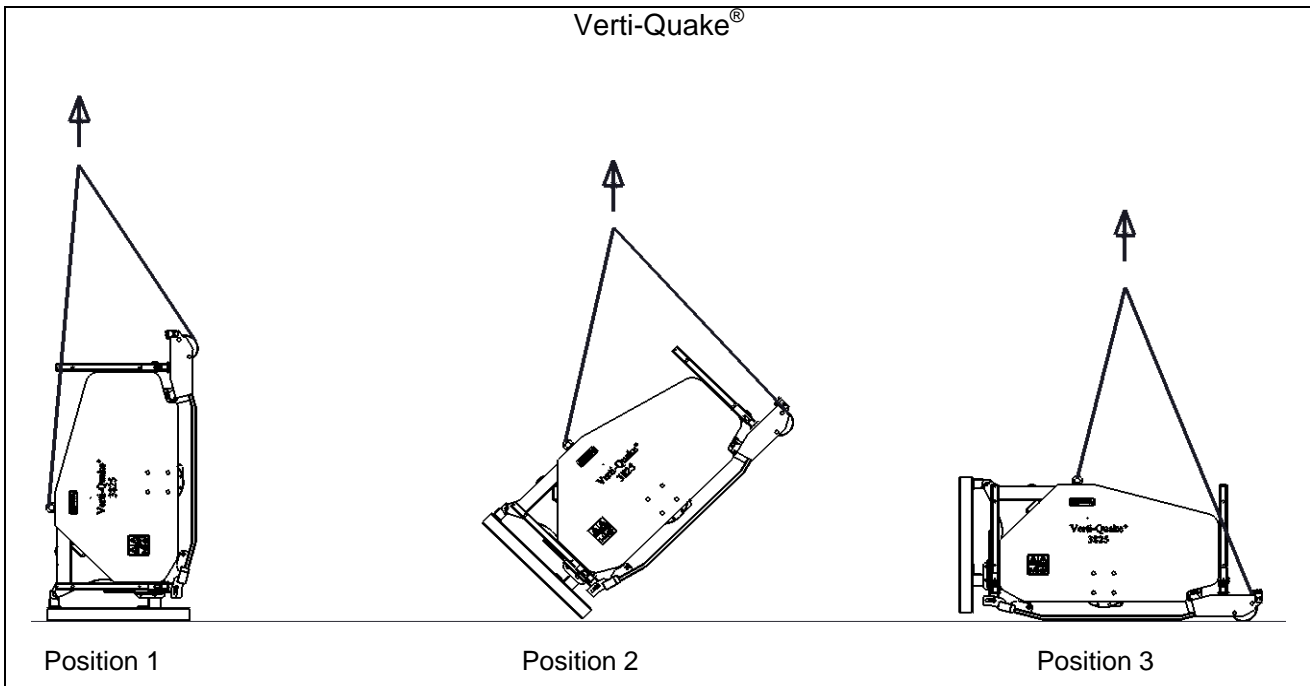

Fig. 6
The machine rests vertically on the pallet. To remove the pallet and place the machine on the floor horizontally, follow the instructions below: (fig. 6)
1. Secure a cable to lifting point and to the roller. (fig. 6 Position 1)
3. Ensure the machine rests on the outer part of the pallet. (fig. 6 Position 2)
4. Carefully and slowly lower the machine until its full weight is on the floor. (fig. 6 Position 3)